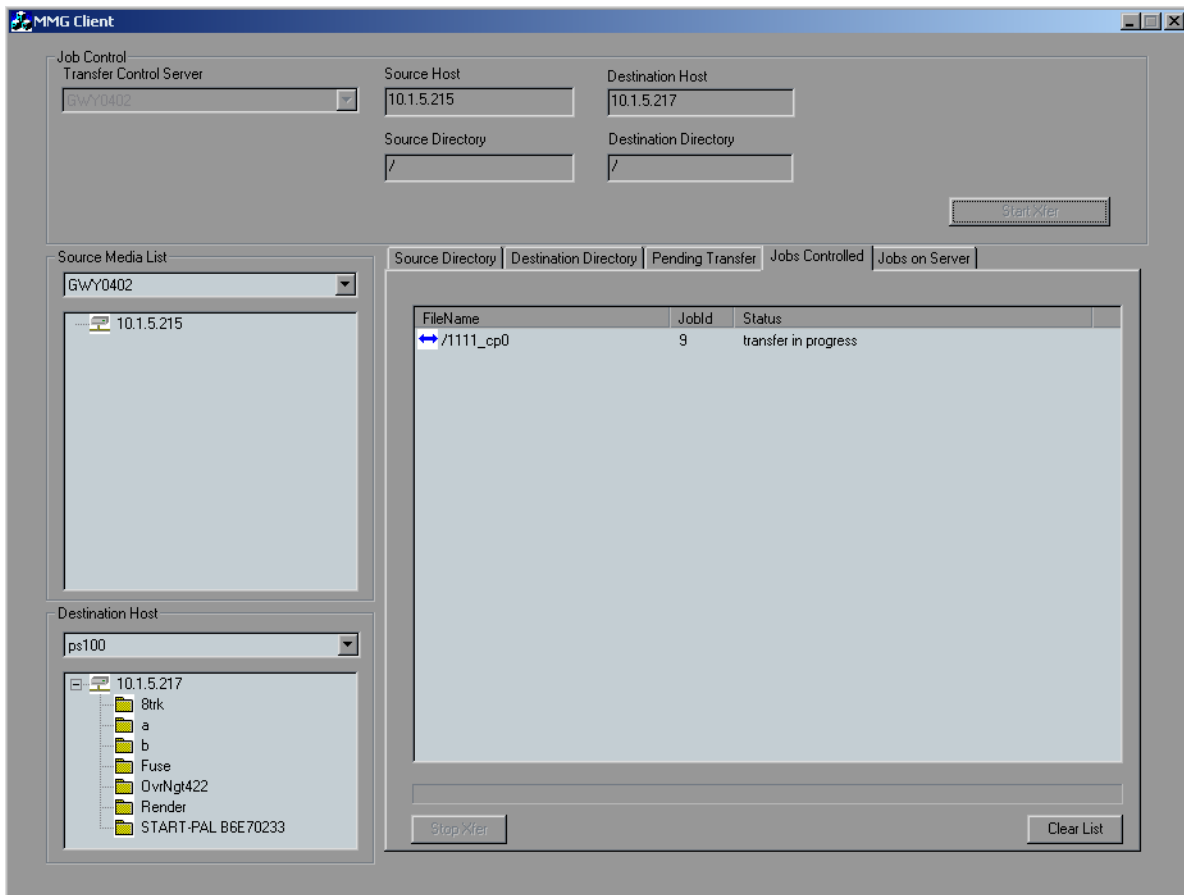

Figure 4-11: MMG Client: Transfer in Progress
- As soon as the transfer status shows transfer in progress, (Figure 4-11), close the MMG Client.